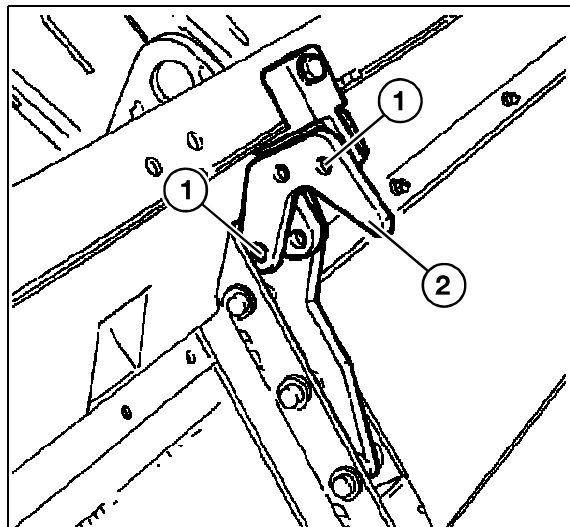
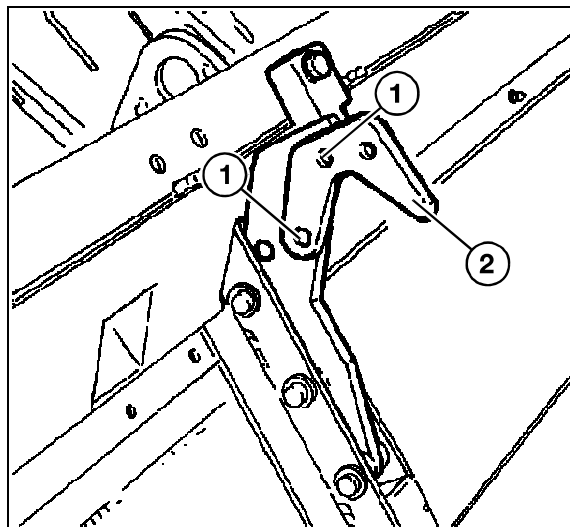

Fig. 11
Fig. 12
Fig. 11 and Fig. 12
- 2.) Remove the bolts (1) fastening the hook (2) from both sides.
- 3.) Change the position of the hooks (2) by moving them backward; fasten as shown in Fig. 12
The normal position (Fig. 11) is recommended for all crops (even laid crops). The table angle in relation to the ground should only be increased (Fig. 12) if the stone trap fills too quickly.